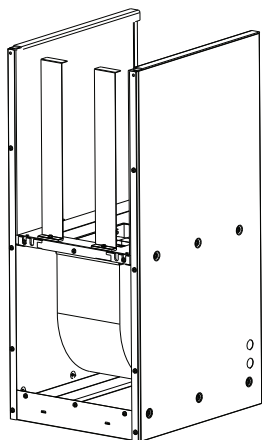

Figure 1: Downflow Bracket (A) attached to the chassis of the fan cabinet
Step. 7b Screw in Downflow Bracket (A) as shown in Figure 1. Figure 2 shows how the HEX assembly will be supported by the Downflow Bracket (A) when in the final installation orientation.